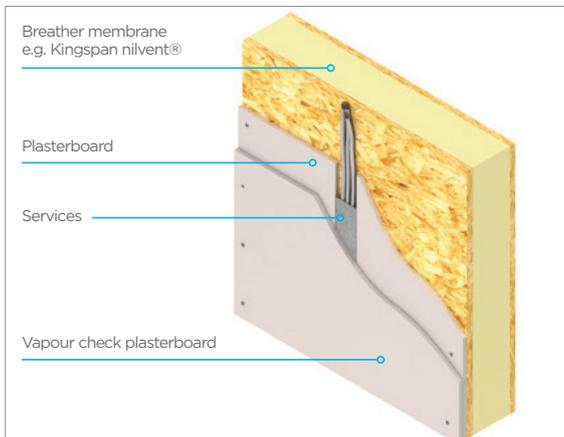

FIGURE 6
- a double layer of 12.5 mm plasterboard - the layer closest to the TEK® Building System panel should be chased out to create a cavity for services. The second layer should be 12.5 mm vapour check plasterboard (see Figure 6).